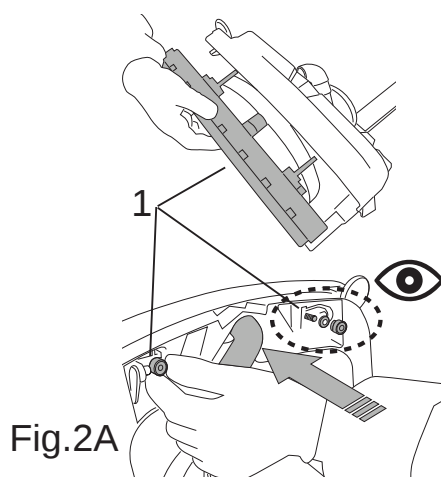

Fig.2A
- Montér forreste svaber (Fig.2A-Ref.1).